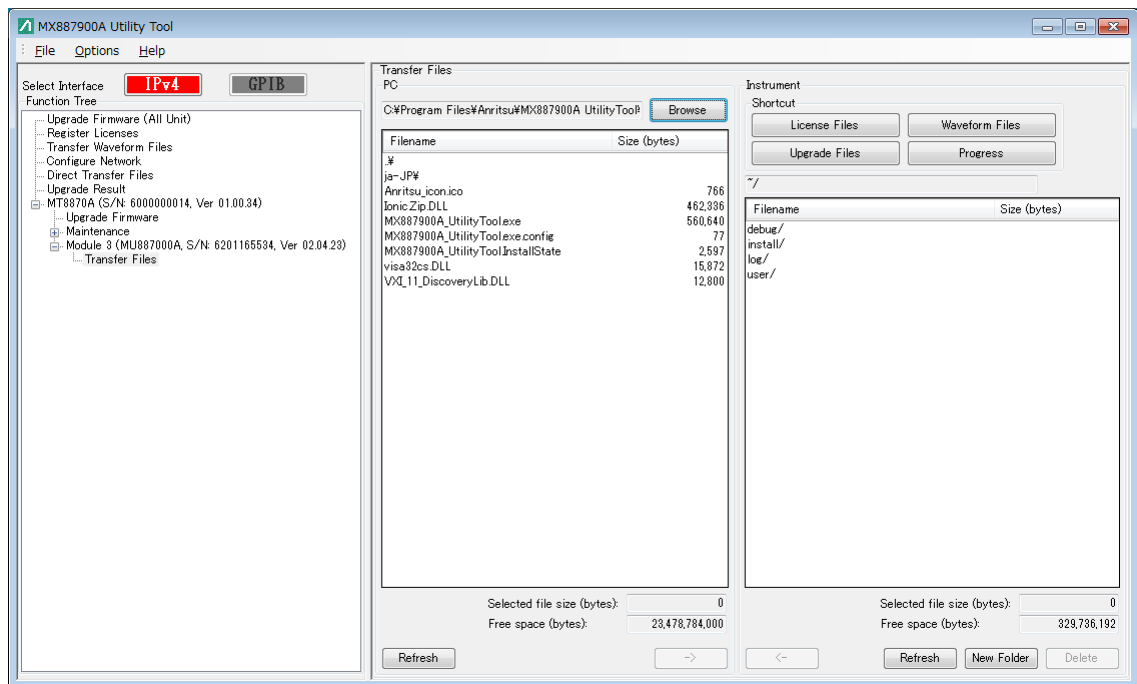

Figure 8.3.9-1 File Transfer Window
3. The File Transfer window shown in Figure 8.3.9-1 File Transfer Window is displayed. Refer to section 8.3.9 “Transferring files”.